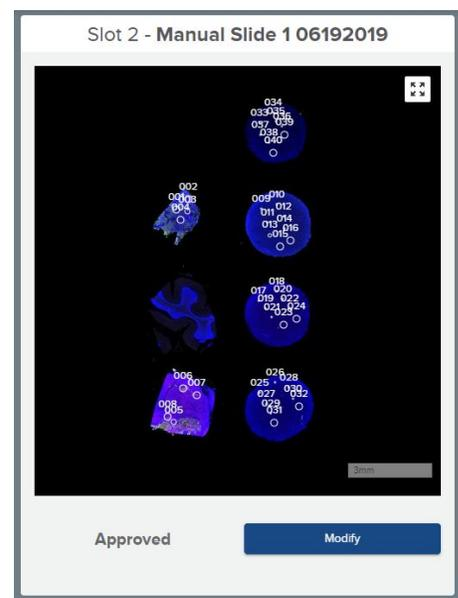

Figure 51: Scan status messages and buttons
4. Repeat the steps **Select ROIs** and **Segment ROIs (optional)** for each slide. Use the **Edit ROIs** button to open the Scan Workspace for each scan image. Once ROIs have been saved and approved on a scan image, the button below it will change to **Modify** (Figure 51). ROIs can be modified up until collection from the slide has begun, then the **Modify** button will not be available.